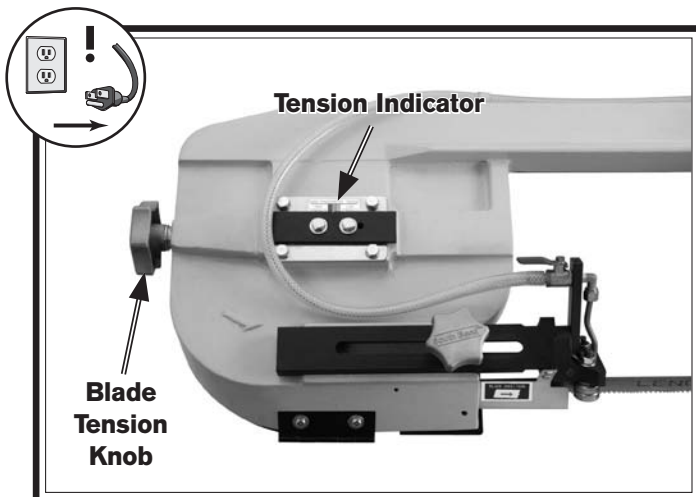

Figure 22. Adjusting blade tension.
4. Turn the tension knob in **Figure 22** clockwise to tighten the blade or clockwise to loosen the blade.